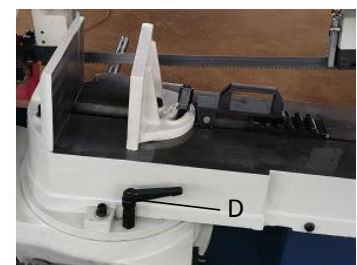

Fig.9
- 1、 Loosen spring loaded clamp handle(D) Fig.9;